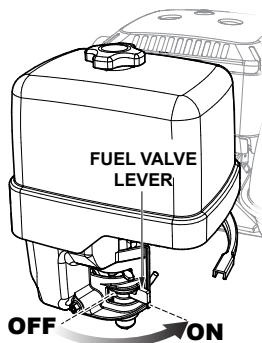

Figure 17. Fuel Shut-Off Lever
1. Place the fuel shut-off lever (Figure 17) in the **ON** position.
3. Place fuel shut-off lever (Figure 17) in the **OFF** position.